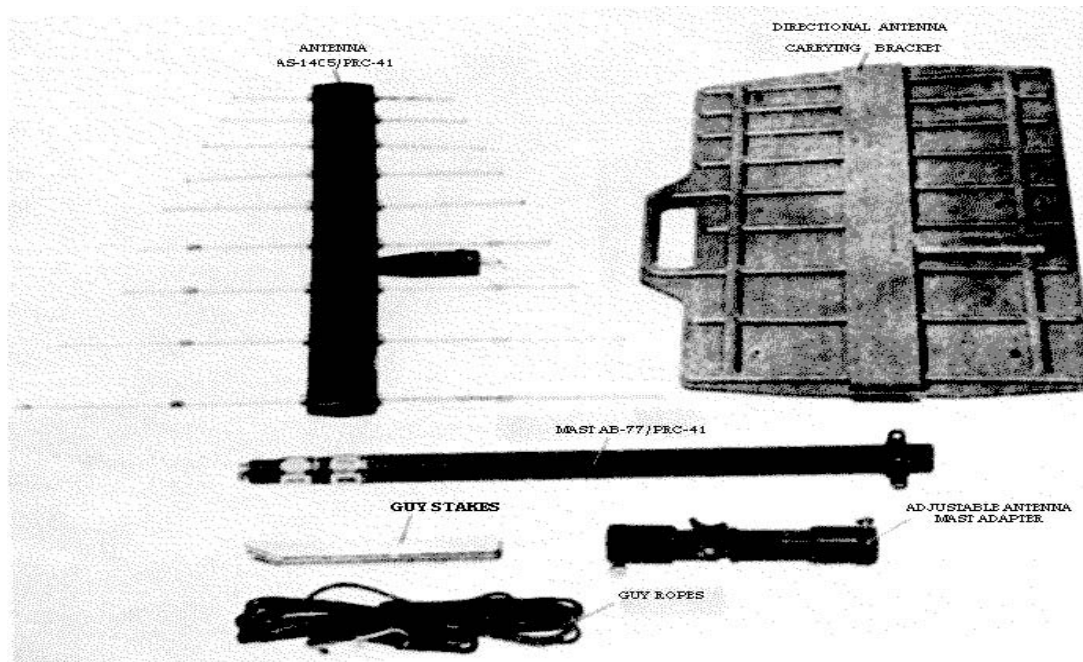

Figure 1-9. Antenna AS-1405/PRC-41, Mast AB-777/PRC-41, and Accessories
(4) ANTENNA AS-1405/PRC-41 AND ACCESSORIES. - Refer to figure 1-9. Antenna AS-1405/PRC-41 is a directional antenna for use with Radio Receiver-Transmitter RT-695/PRC-41. The AS-1405/PRC-41 is used for transmission and reception of signals in the 225- to 399.9-mc range. The elements of Antenna AS-1405/PRC-41 are made collapsible for storage. The AS-1405/PRC-41 is a planer log periodic dipole array which provides unidirectional directivity characteristics. Antenna AS-1405/PRC-41 mounts on an adjustable antenna mast adapter and Mast AB-777/PRC-41. Guy ropes and stakes permit Mast AB-777/PRC-41 to be staked in place in a fixed station installation.